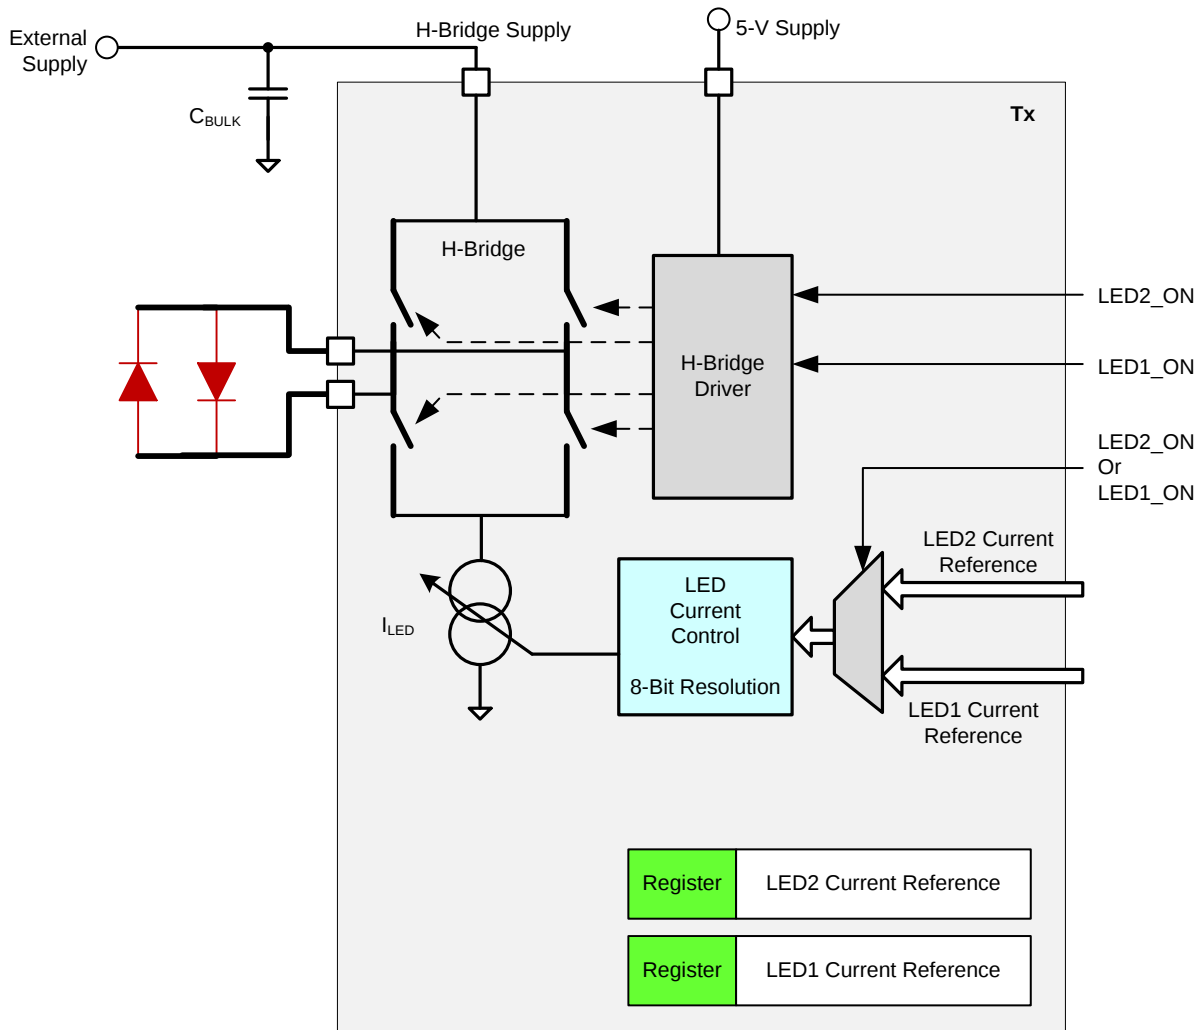

Figure 44. Transmit: H-Bridge Drive
- An H-bridge drive for a two-terminal back-to-back LED package, as shown in Figure 44. The minimum H-bridge supply voltage must be $2.5\text{ V} + (\text{maximum voltage drop across the LED})$.